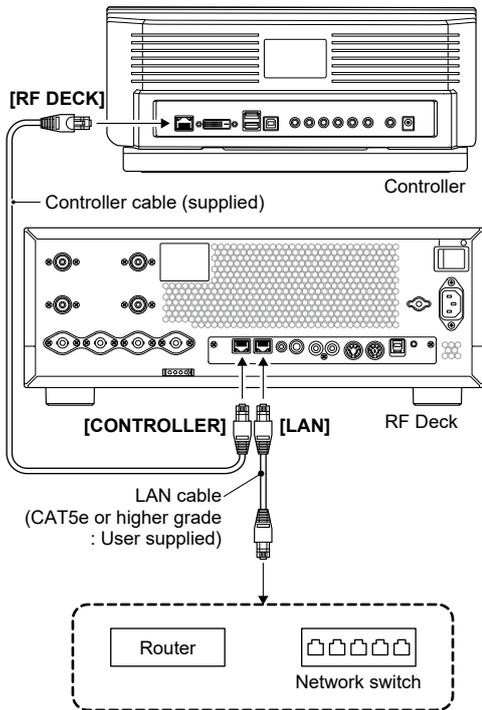

Figure 09-40. Connection with network switch or router (1)
- 2). Connect the [LAN] port of the RF Deck to a network switch or router (LAN side) with the connection in step 1). (Figure 09-40)